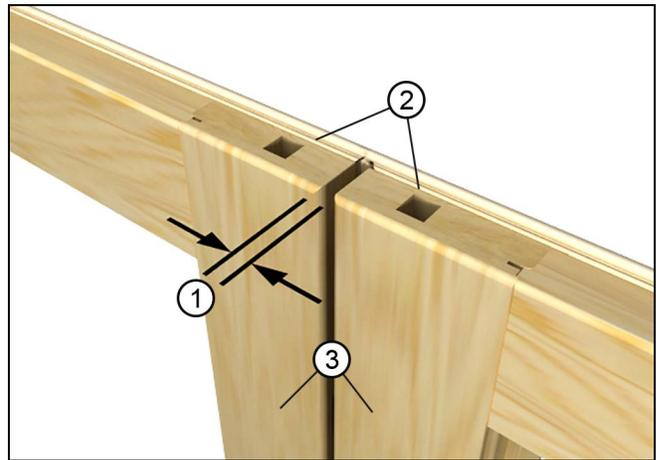

Figure 17
9. For Swinging Panels: If one panel is further to the exterior than the other (or on a single operating panel door the panel does not align parallel to head jamb) check sides of frame for plumb. If correct and the panel(s) still do not align, move the top of one or both sides of the frame slightly in or out. On a multiple panel unit check to make sure top corners of the panel locking stiles are aligned and flush with each other. On a single operating panel unit check to make sure the margin along panel top and head jamb are even. See Figure 17. If one panel is higher/lower move the top of the frame horizontally until the panels align.